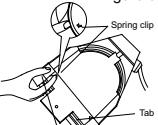

Figure 4
- 1.Position the fixture with the front of the unit (the lens side) facing you, and tilted slightly(**Figure 4**).
- 5.Press the spring clip with your finger to release the lens(**Figure 4**).